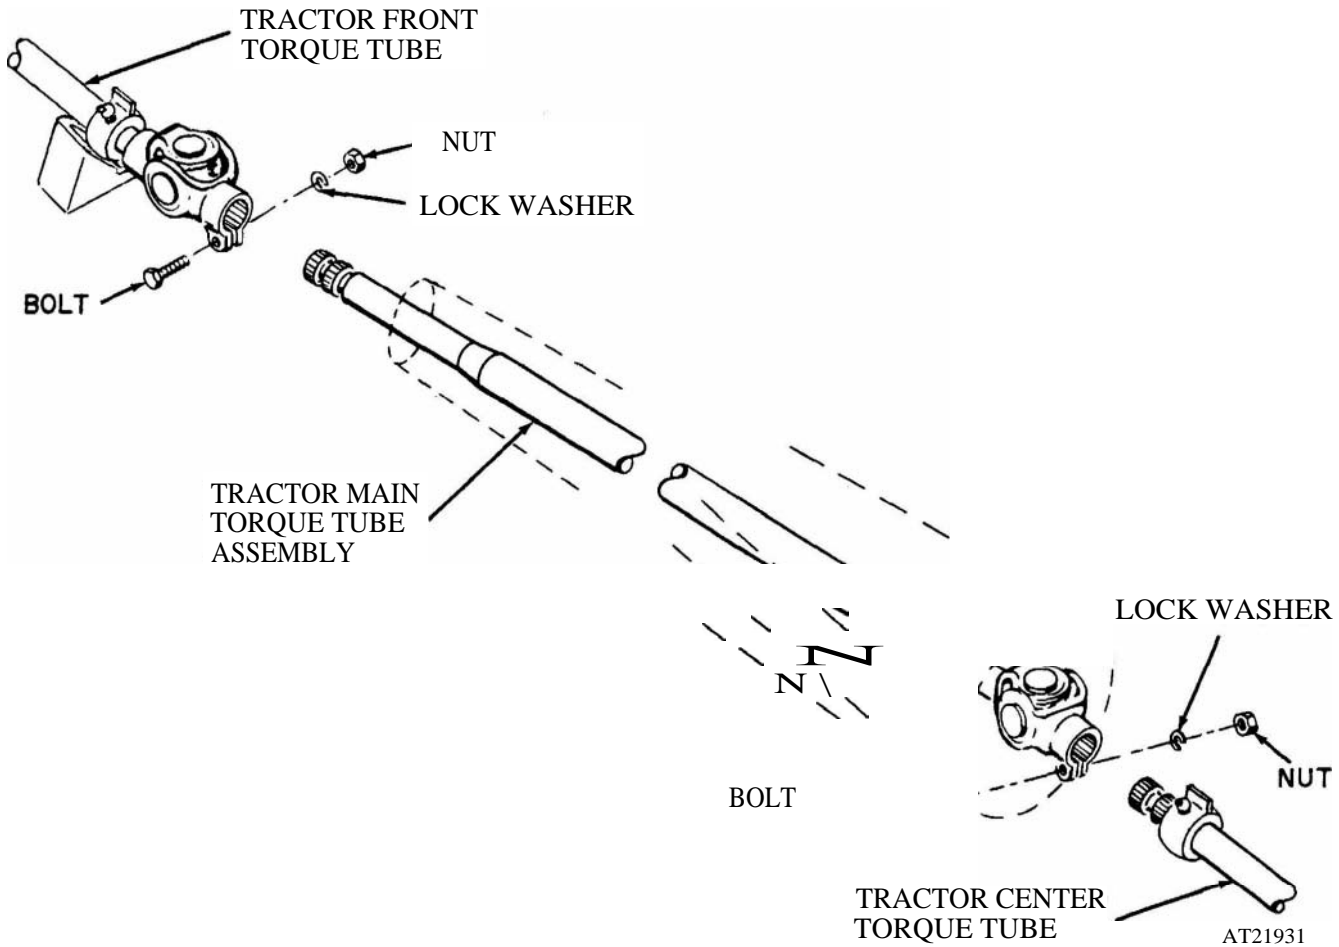

Figure 2-278. Tractor main torque tube, removal and installation.
- (1) Position main torque tube universal joint on center torque tube. Secure universal yoke to tube with bolt, lock washer, and nut. Torque nut to 15-24 **lbs-ft.** (fig 2-278).
- (2) Position forward end of main torque tube to universal yoke on front torque tube. Secure tube to yoke with bolt, lock washer, and nut. Torque nut to 15-24 lbs-ft.